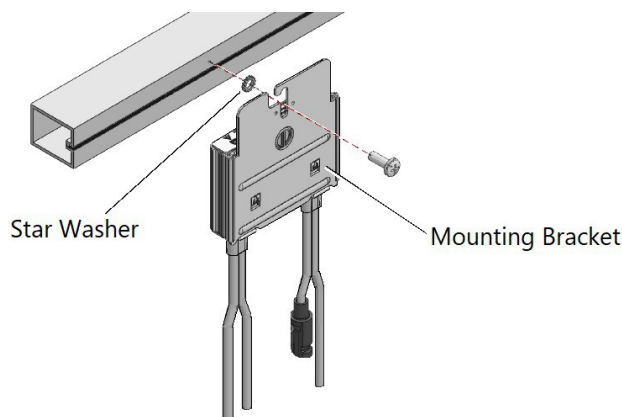

Figure 4: Power Optimizer installation and grounding using a star washer
1. Determine the Power Optimizer mounting location and use the Power Optimizer mounting brackets to attach the Power Optimizer to the support structure. [See Figure 4. \[26\]](#) It is recommended to mount the Power Optimizer in a location protected from direct sunlight.